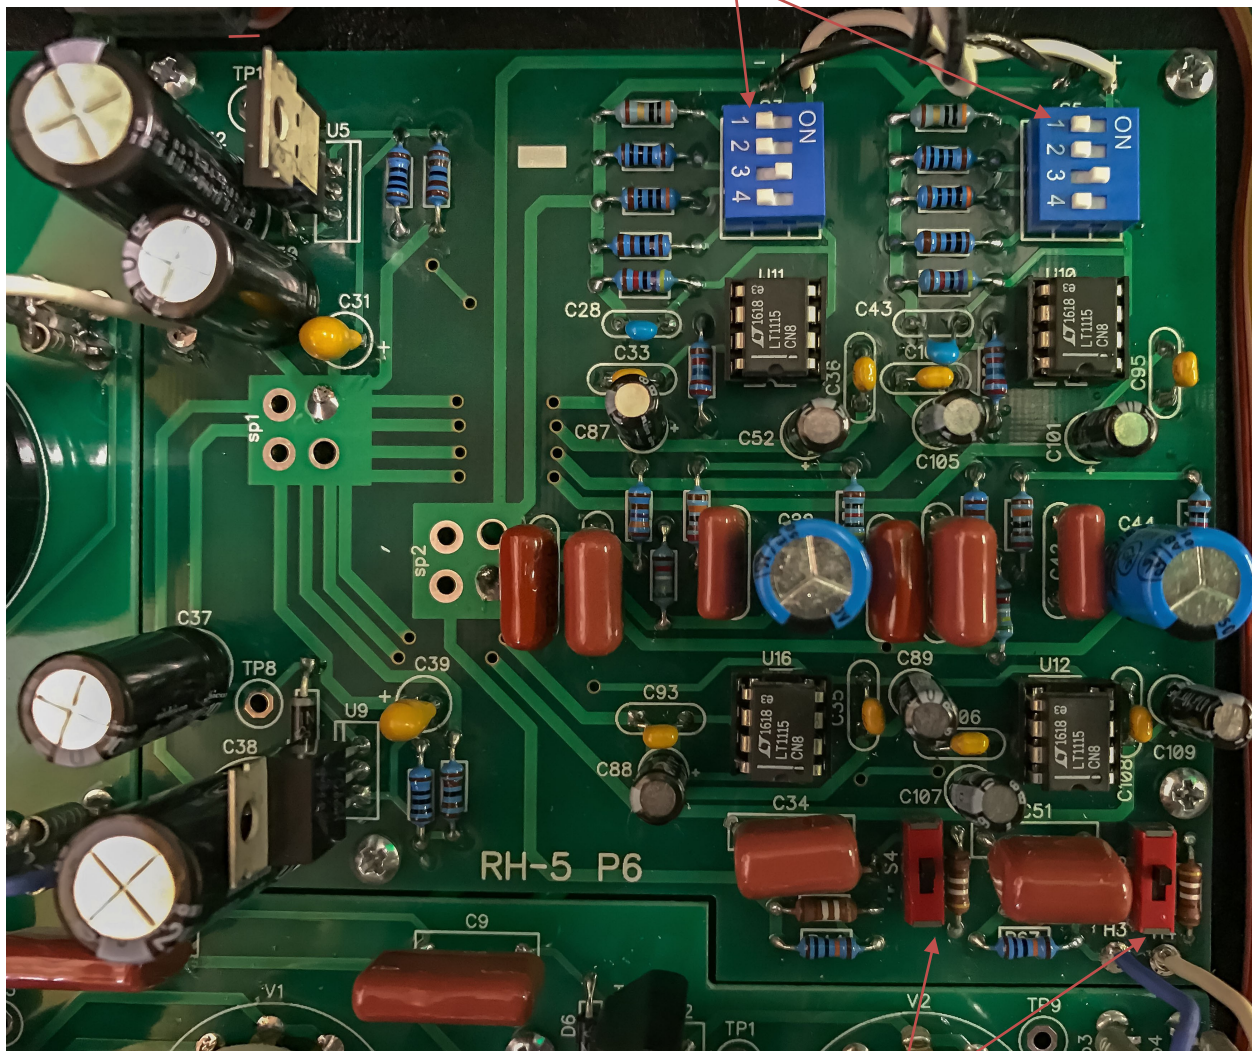

Figure 3
The cartridge loading DIP switches are located near the rear of the optional phono board (figure 3). It is important to point out that the cartridge manufacturers recommended loading should be considered as a starting point and not an absolute. Systems and turntable setups vary significantly and if you want to get the most out of your analog setup, take the time to find the settings that sound best in your system.
Resistive loading – There are two sets of DIP switches (S3 and S5) for setting the resistive loading (one per channel). The four switches are labeled 1,2,3 and 4. Figure 3 shows the switches in the 300 Ω position. The loading options are given in Table 1 on the following page.
Resistive Loading Table (see figure 3)
Setting the phono gain - The two slide switches S6 and S4 are used to set the gain and are located on the front right side of the optional phono board (Figure 3). If the switches are pushed towards the rear 56 dB of gain is provided which is sufficient for most low output cartridges. When the switches are pushed forward (towards the front of the RH-5) the phono provides 44 dB of gain which is suitable for moving magnet (MM) and high output moving coil (MC) cartridges. A setting of 56 dB gain and 300 Ω loading is shown in Figure 3.